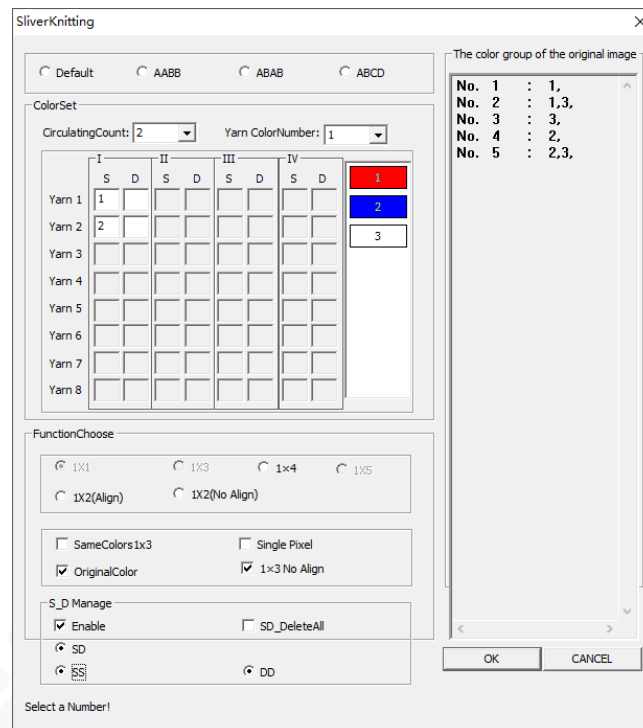
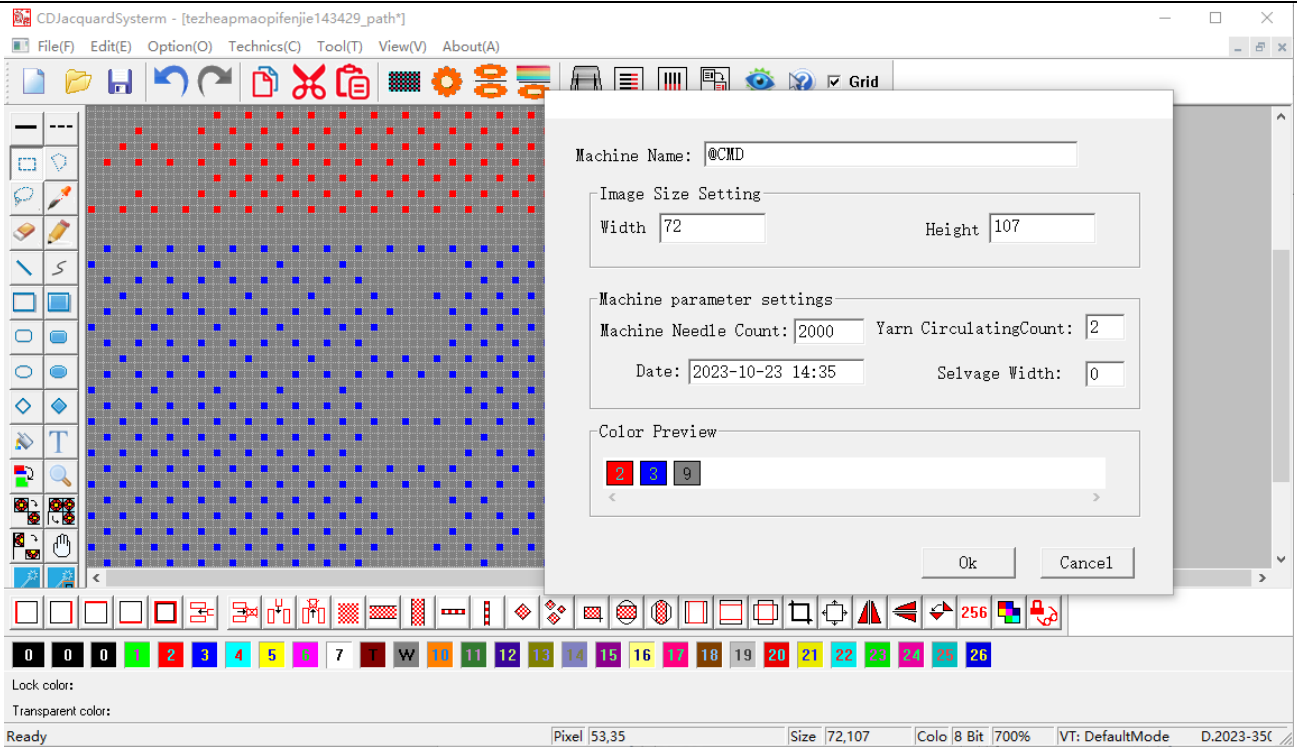
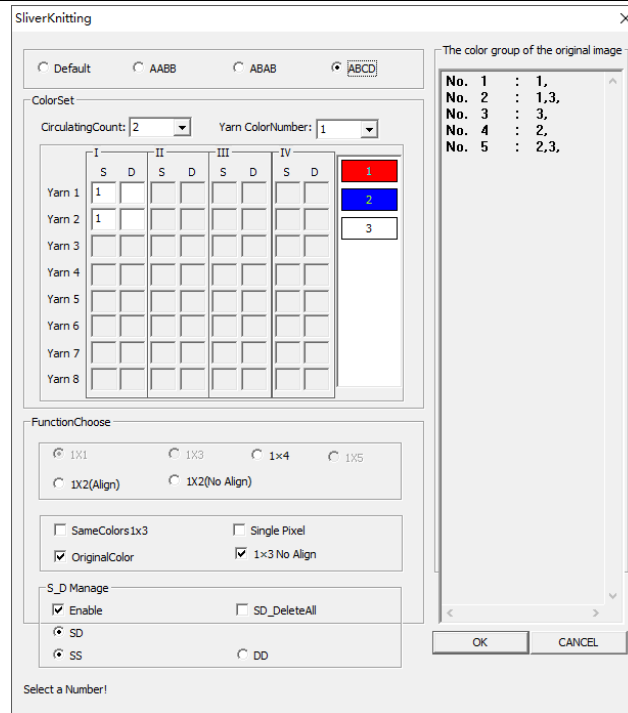

Figure 6-63
Figure 6-64
Figure 6-66
- (1) Open the BMP picture to be decomposed.
- (2) Click on the fur decomposition tool to open the loop cutting processing dialog box, as shown in Figure 6-63.
- (3) Select the default decomposition type.
- (4) Select the number of colors to decompose (i.e., the number of paths).
- (5) Enter the color serial numbers of the first and second routes in the cutting box or circle box, where entering in the cutting box indicates that the first needle starts to produce needles, and entering in the circle box indicates that the second needle starts to produce needles.
- (6) Select the option of “One Interval Three Staggered Decomposition” in the decomposition options, and do not worry about all other options.
- (7) Click the decomposition button, and then close the dialog box.
- (8) Click on single sided decomposition, set the yarn cycle number to 1 and set parameters such as needle count, as shown in Figure 6-64.
- (2) Click on the fur decomposition tool to open the loop cutting processing dialog box, as shown in Figure 6-66.
- (3) Select ABCD for the decomposition type.
- (4) Select the number of colors to decompose (i.e., the number of paths), which is only used for binary decomposition.
- (5) Enter the color serial numbers of the first and second routes in the cutting box.
- (7) Click the decomposition button and then close the dialog box.
- (8) Click on single sided decomposition, set the yarn cycle number to 1, and set parameters such as needle count as shown in Figure 6-64.